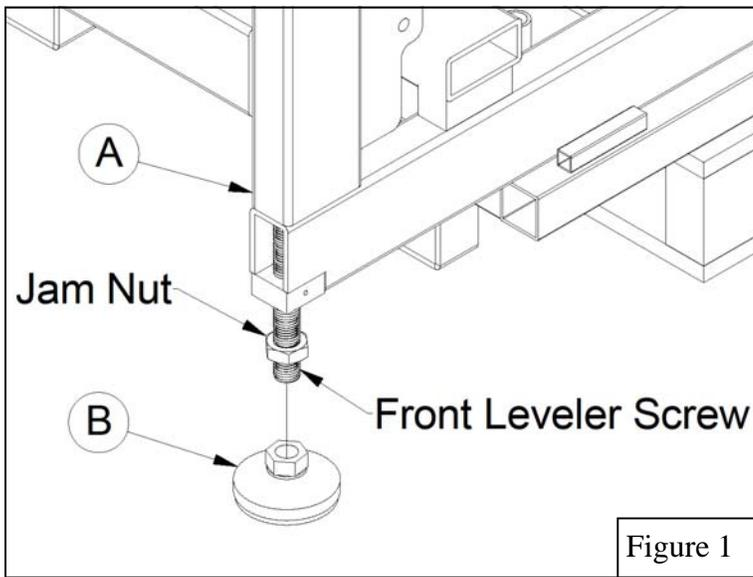

Figure 1
1. Carefully lift the front of the unit with a forklift or 4 adults until the back wheels make contact. Remove and discard the shipping pallet. Install the *Front Leveler Pads* (B) onto the front leveler screws and then tighten the jam nuts against the *Front Leveler Pads* (B). Lower the front leveler screws to allow clearance for *Swivel Caster* (C) installation. See Figure 1.